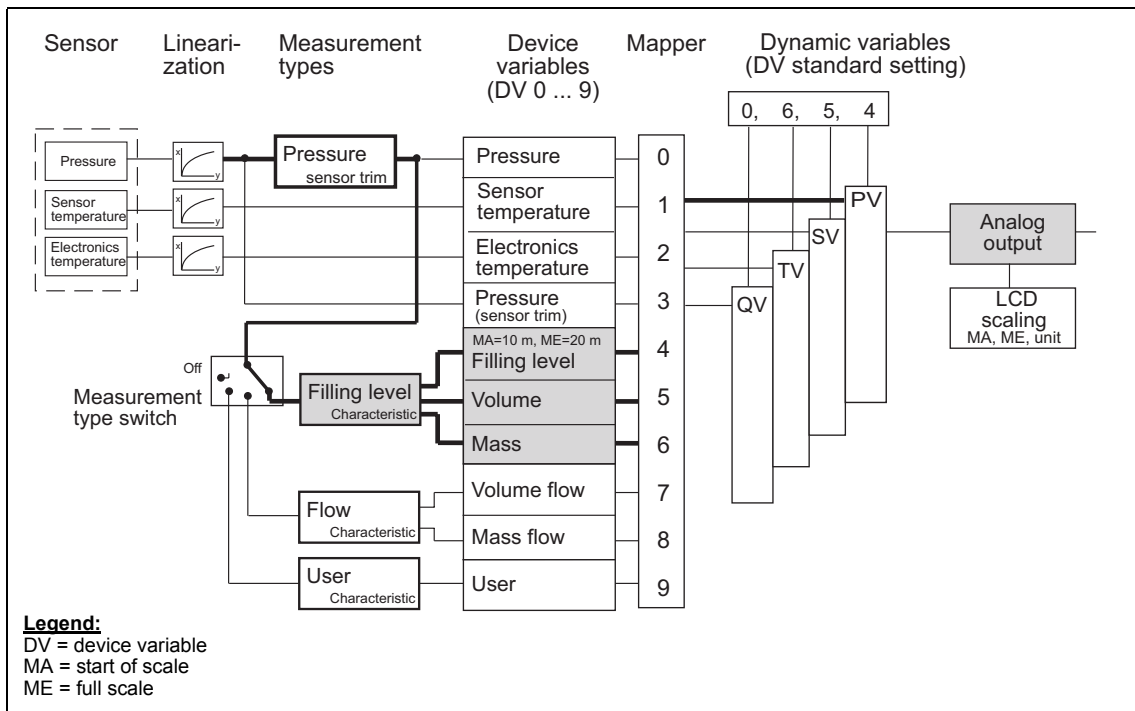
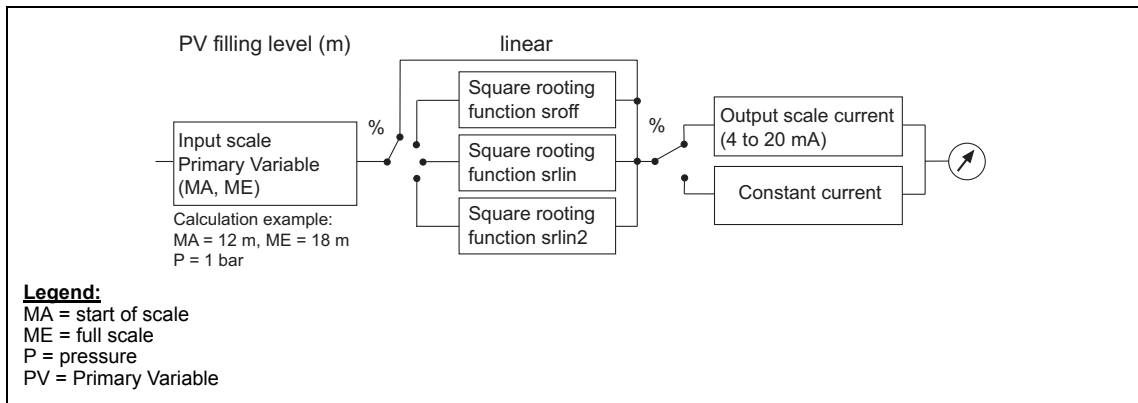

Figure 31 Scaling "Analog output"
Figure 32 Analog output block
When using the flow block, other square rooting characteristics may have to be switched off (Figure 32, pg. 62).
The analog output block converts the value provided by the dynamic variable PV into a current value of 4 to 20 mA. By actuating the measurement type switch you determine the start of scale and full scale which are to correspond to the current values 4 and 20 mA here automatically in advance. The limits of the corresponding device variables as you have entered them in the parameterization of your measurement type are used for scaling the analog output (Figure 31, pg. 61 "Analog output"). This means that with a "Filling level" device variable as the Primary Variable (PV), 10 m would correspond to the value for 4 mA and 20 m to the value for 20 mA. You can change this presetting again in the analog output block by restricting the range of the device variable "Filling level" for scaling of the output current to 12 to 18 m for example (Figure 32, pg. 62). This reduction has no influence on the previous block scaling. In this case a current of 4 mA is output at a measured height of 12 m and a current of 20 mA at 18 m.